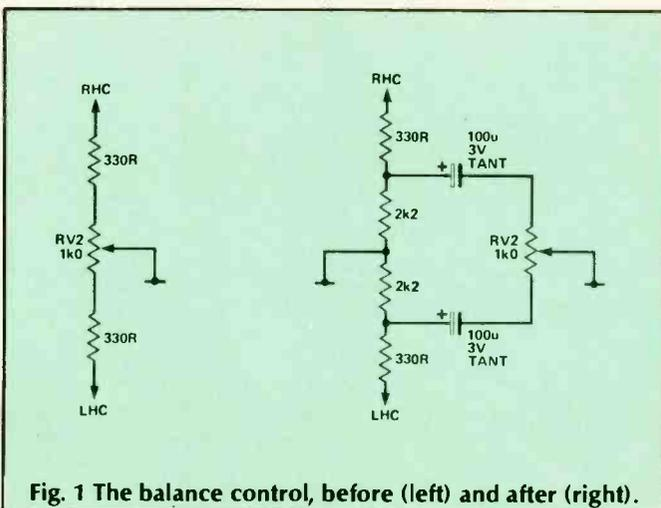

Fig. 1 The balance control, before (left) and after (right).
6. The balance control carries DC current intentionally to ensure that constant resistance is overcome. This does mean that there is an audible brushing noise whenever the control is turned. If this proves an irritation the circuit modification shown in Fig. 1 can be made. The balance control *must* be a wirewound type. Any other type will degrade the stereo separation. In my opinion, this modification worsens the sound quality.